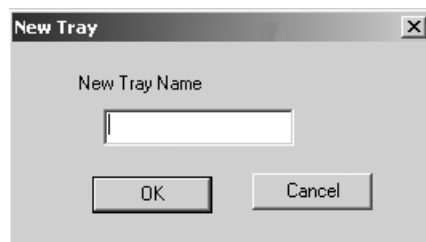

Figure 3-4. The New Tray window.
2. Click **New Tray**. The New Tray window appears (figure 3-4).